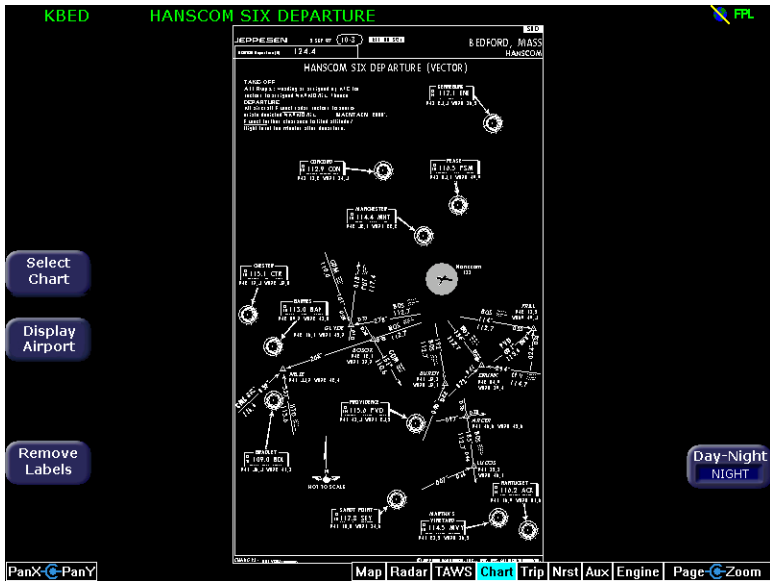

Figure 6.5 Airport Departure Chart (Night View)
- 11) **Day/Night**—Toggles the chart display mode between the Day (black text on a white background) and Night (white text on a black background) modes. Other colors such as water or shaded terrain are also adjusted between Day and Night modes. See Figure 6.5 on page 57 for an example of a chart in Night Mode.
Charts that cannot be split into smaller sections are shown as a complete chart, as shown in Figure 6.5, with the View button not displayed, since only one View type is available.